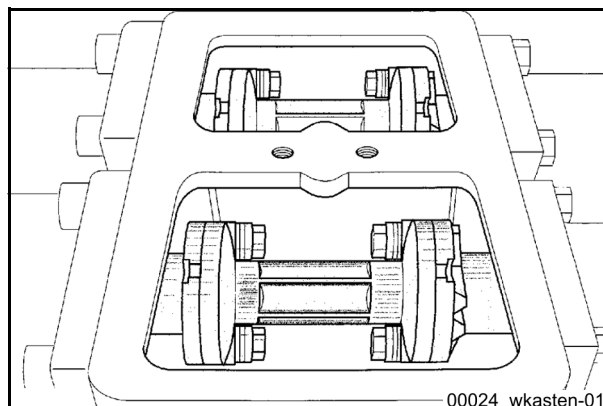

Fig. 195
- Move the pumping piston to just before the rear end position. The distance piece (**Fig. 195**) must be fully visible in the water box.